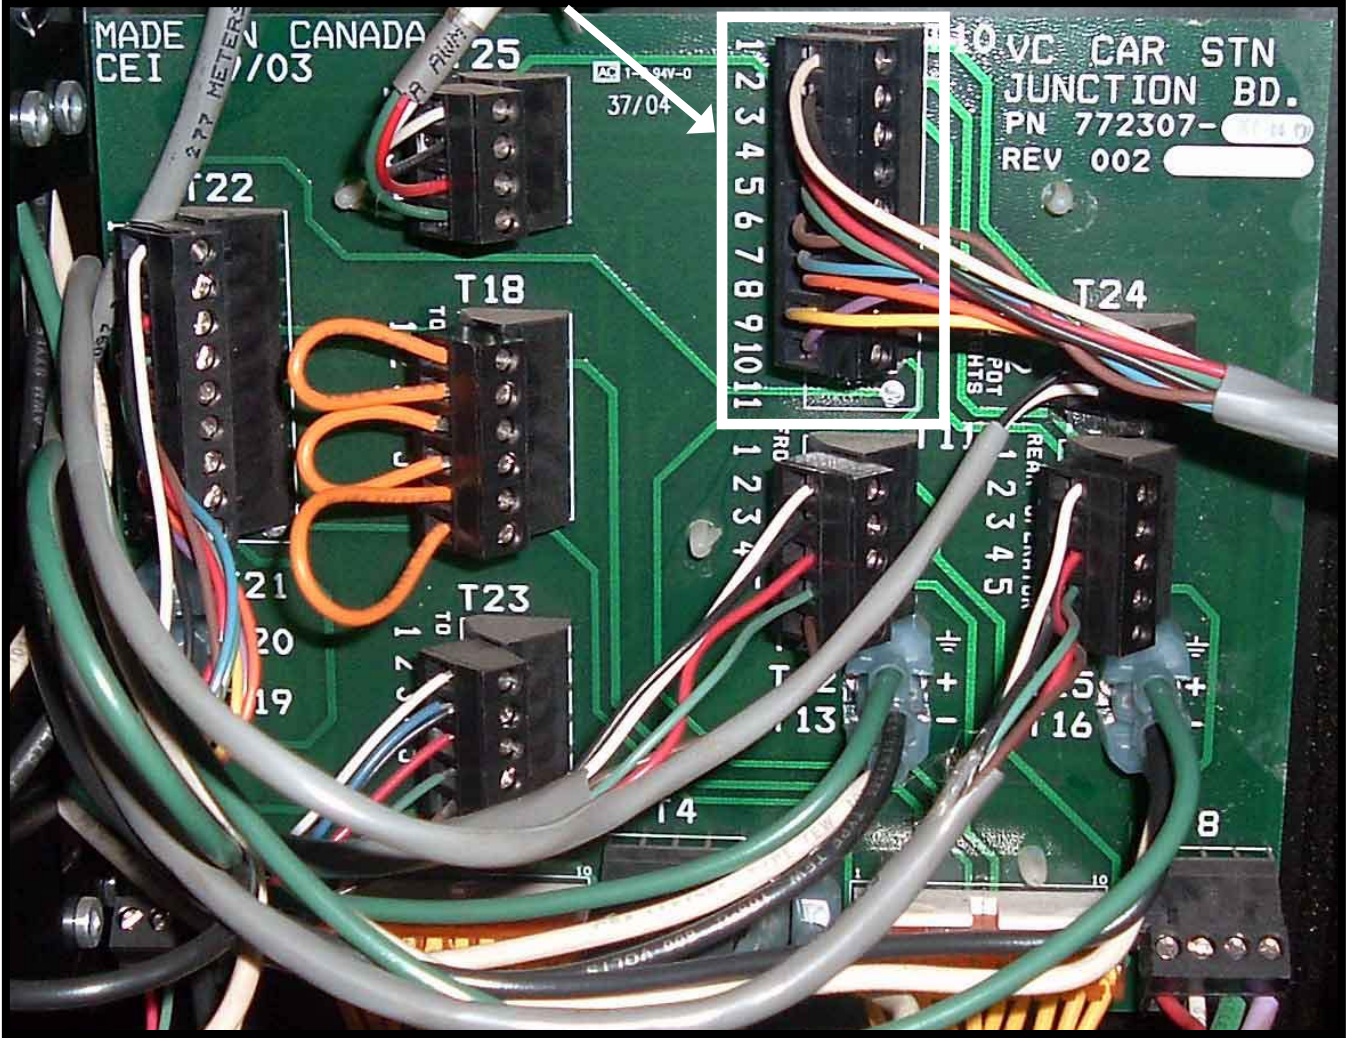

Figure 2 Car Station Junction Board
- 6) Connect the red and green wires from the Telephone Cable to terminal T10 pins 6 and 7 on on the Car Station Junction Board. Refer to Figure 2.